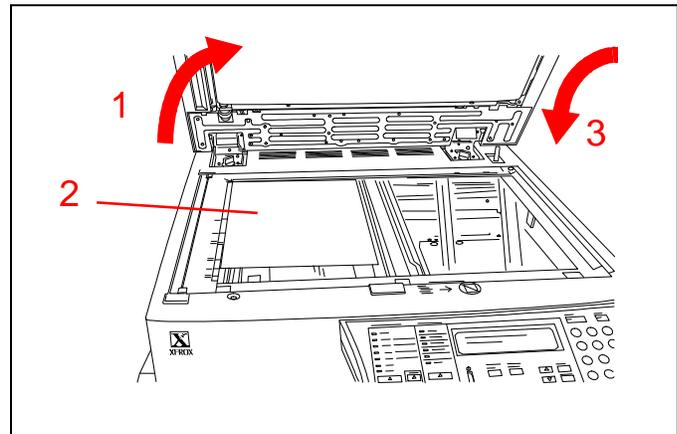

Figure 42
1. See Figure 42. Raise the document glass cover or ADF.